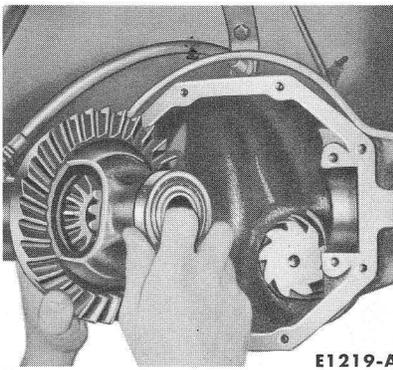

FIG. 8—Differential Case Removal
4. Remove the differential case and bearing cups (Fig. 8).